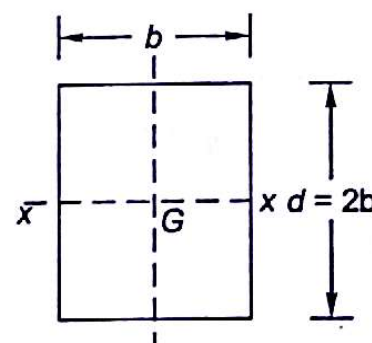

Fig. 8.17
8.2 Fig. 8.17 shows a rectangle with sides b and $d = 2b$. If $I_{xx} = 1000 \text{ cm}^4$, what is b ?